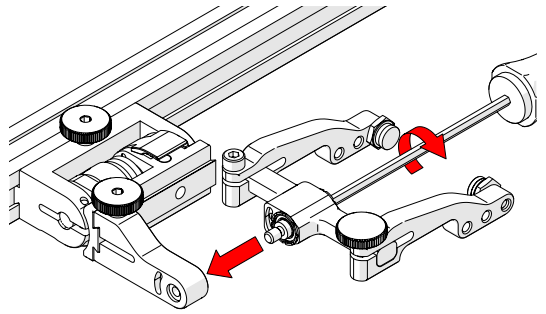

Fig. 75 - Install yoke to swing arm
6. Using the 3 mm hex driver, screw the yoke pivot screw into the opposite side of the probe holder swing arm (Fig. 75). Ensure the yoke is level to avoid issues with the plunger/set screw.